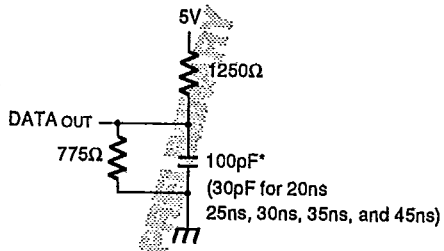

Figure 1. Output Load
Output Load	See Figures 1, 2, and 3
1. Transition is measured ±500mV from low or high impedance voltage with load (Figures 1, 2, and 3).
1. Transition is measured ±500mV from low or high Impedance voltage with load (Figures 1, 2, and 3).